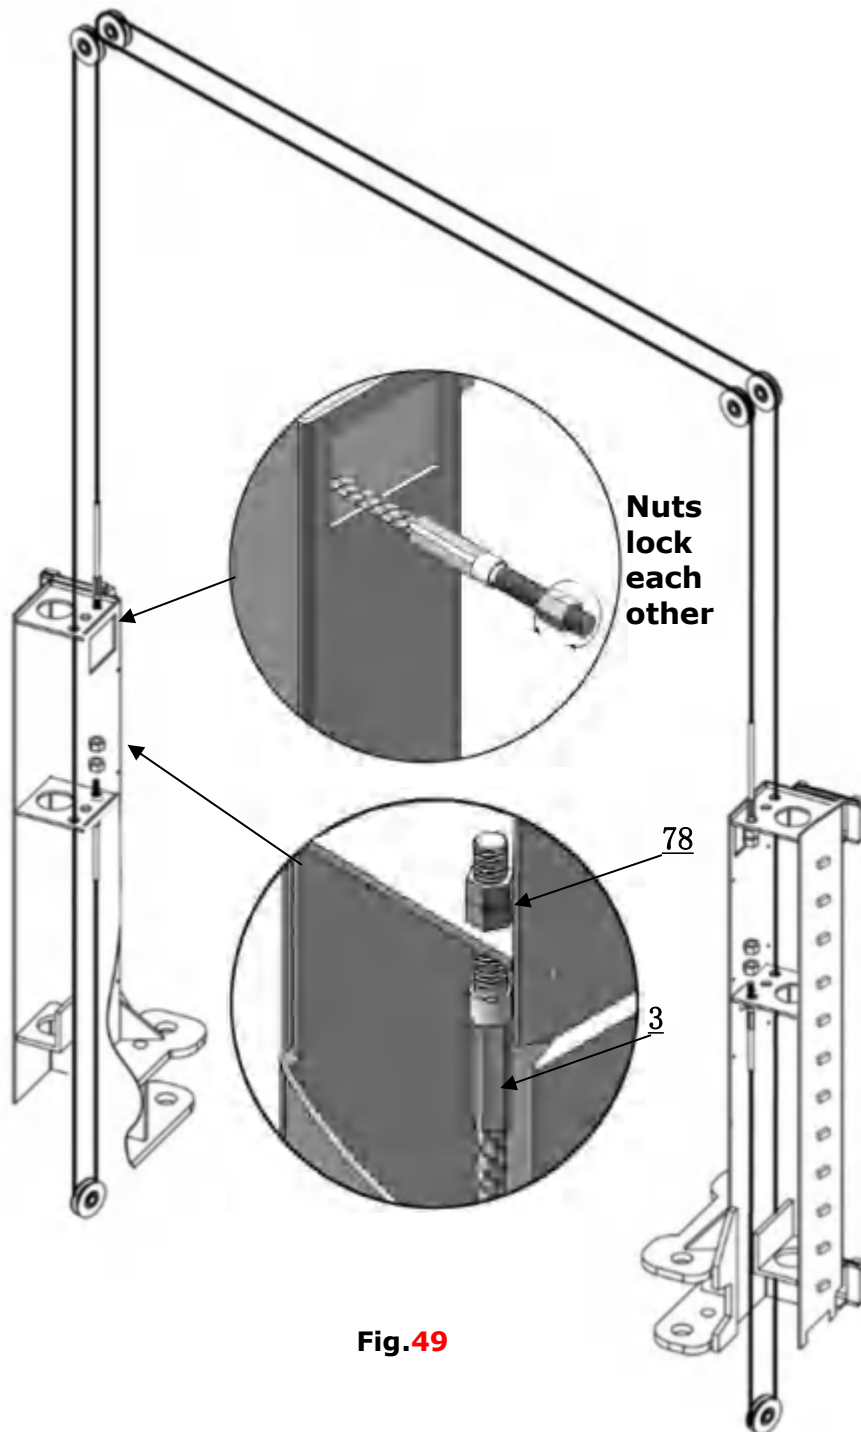

Fig.49
3.3 OHX-10H: Cable connection for high setting (Fig. 49).